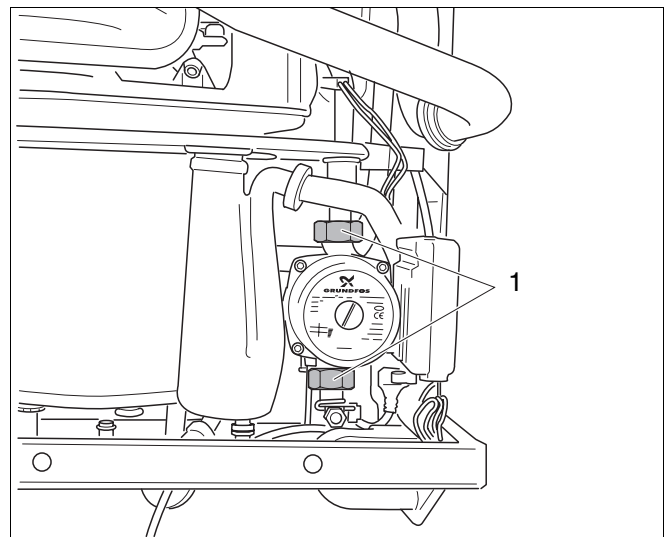

fig. 73 Replacing the pump
- Loosen both swivel nuts (see fig. 73, item 1)